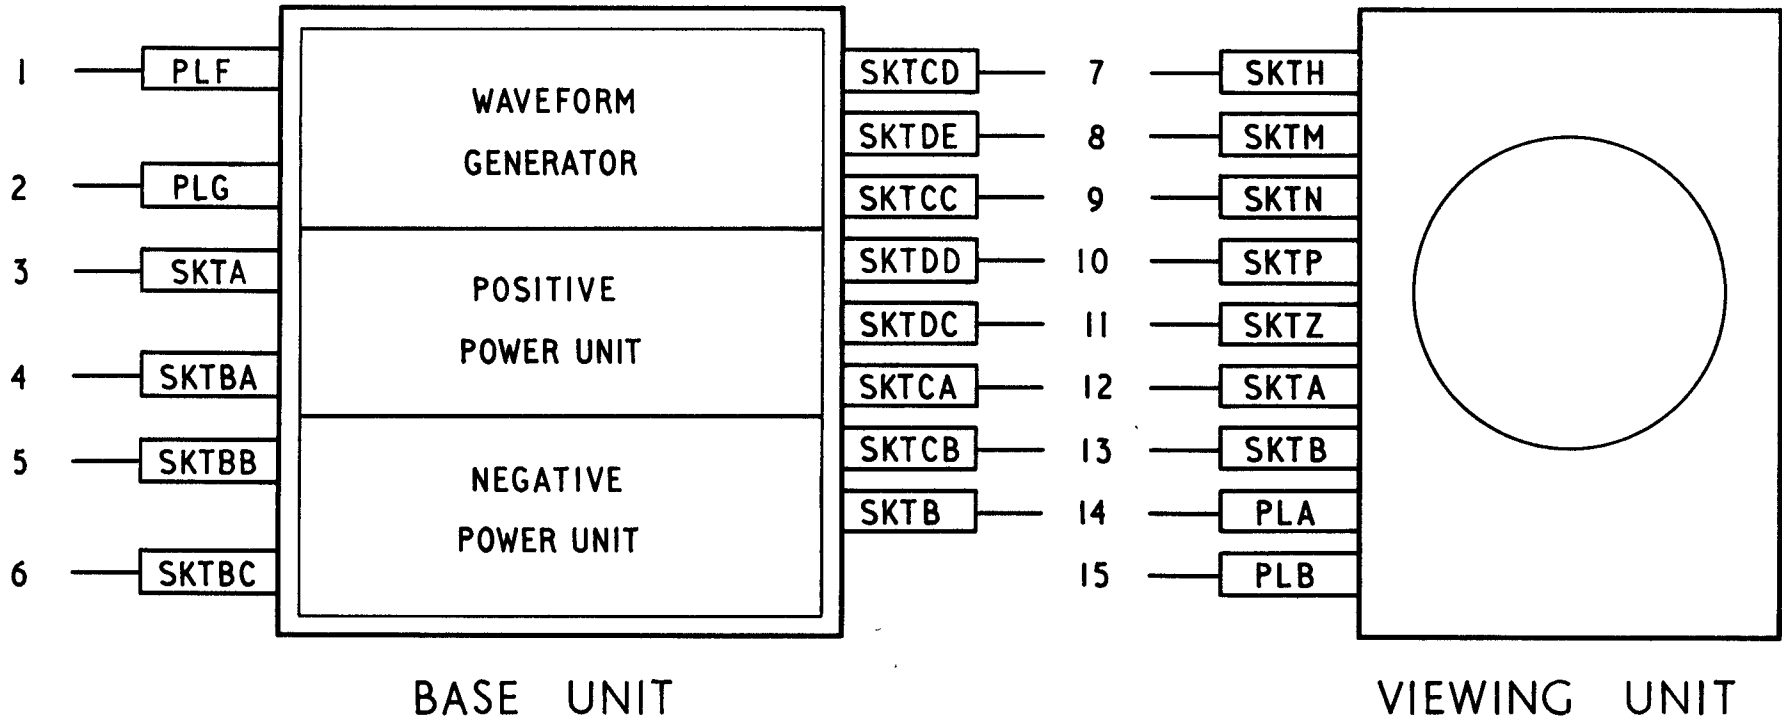

FIG.2.4.1. DIAGRAM OF INTER-UNIT CABLING
1. Since CRD 23 is used with various types of equipment, there will necessarily be differences between one installation and another. The information given here has therefore been designed to show the cabling of a basic display and yet to indicate all the routes which would be required in a complex system. Fig.2.4.1 shows this arrangement and the details of each cable are given below. Reference to this should be made in conjunction with the cabling schedule of the parent equipment. Wiring and interconnection details of the base and viewing units are given in Figs. 2.4.2 and 2.4.3.